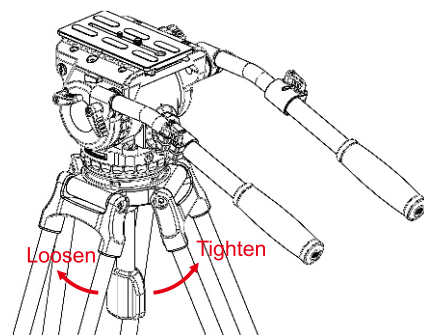

Figure 2
- ③ Temperature usage range: -20° ~ +60°C/-4° ~ 140°F.
- ④ Tilt angle of the head: -70° ~ +90°.
- ⑤ Recommended Counterbalanced Weight Range: 3 ~ 18kg/6.6 ~ 39.7 lb.
- ⑥ Counterbalance adjustment settings: 1 ~ 13.
- ⑦ Tilt Drag Adjustment settings: 0 ~ 7.
- ⑧ Pan Drag Adjustment settings: 0 ~ 7.
- ⑨ When the balance is set, if you attach additional accessories, you will need to re-adjust the horizontal balance.
- ① This model needs to be used on a tripod with a 100mm bowl.
- ② Remove the Locking Handle from beneath the video head. As shown in Figure 2, place the head onto the tripod and re-attach the Locking Handle onto the bottom of the head. To properly level the video head, loosen the Locking Handle and move it until the bubble level on the video head is centered. Turn the Locking Handle in a clockwise direction until it locks the head in place.
As shown in Figure 2, unscrew the Locking Handle in a clockwise direction, until the handle is completely removed, then remove the head.